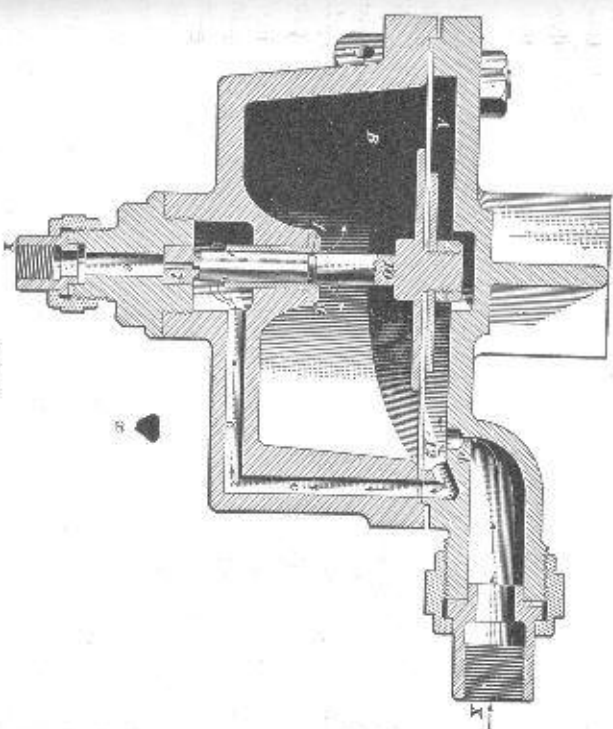

FIG. 7
8. The signal valve, Fig. 7, is located under the cab, either on the engineer's or the fireman's side. The signal
17. Sometimes the whistle only gives a weak blast when the cord is pulled. This may be due to the regulating spring of the reducing valve being too weak, so that there is less than 40 pounds in the signal pipe; the whistle may be full of dirt or be improperly adjusted; or the passage through the bushing *7* in the signal valve, Fig. 7, may be partly stopped up with oil and dirt.
18. If, in the signal valve, Fig. 7, the valve formed by the end of the stem *10* leaks or is held from its seat on bushing *7* by dirt, there will be a constant blow at the whistle.